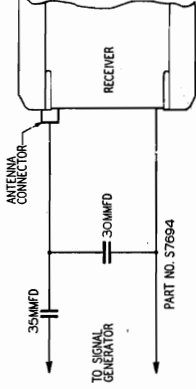

Fig. 6.
**IMPORTANT** — Unless certain dummy antenna capacities are employed with either the signal generator, or in making the adjustments on stations, a receiver will not respond properly. The capacities provided in the Zenith dummy antenna part No. S7694 shown in Fig. 6 are identical with the conditions found in the Nash car, and if adjusted accordingly, the instrument will operate properly when reinstalled in the automobile. The Zenith dummy antenna is especially priced very low, and should be purchased at once for use in servicing the Zenith built Nash receiver.